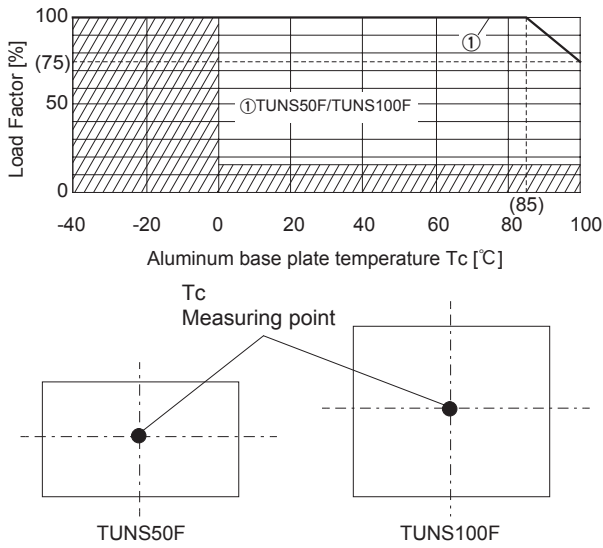

Fig.6.3 Derating curve
- Use the power modules with conduction cooling (e.g. heat dissipation from the aluminum base plate to the attached heat sink). Fig. 6.3 shows the derating curves with respect to the aluminum base plate temperature. Note that operation within the hatched areas will cause a significant level of ripple and ripple noise.
- Please measure the temperature on the aluminum base plate edge side when you cannot measure the temperature of the center part of the aluminum base plate. In this case, please take 5deg temperature margin from the derating characteristics shown in Fig.6.3. Please reduce the temperature fluctuation range as much as possible when the up and down of the temperature are frequently generated. Contact us for more information on cooling methods.